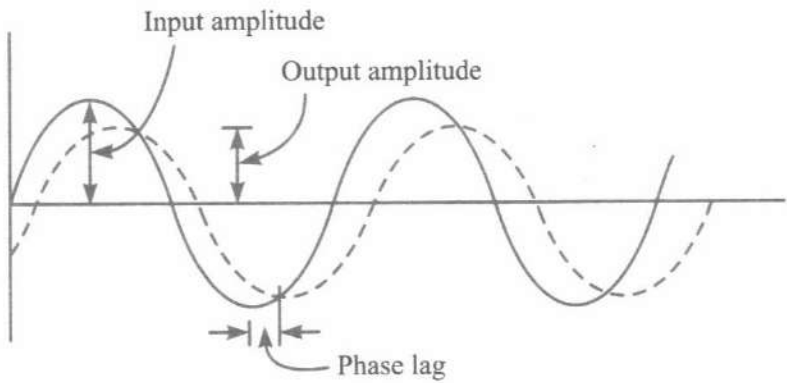

Fig. 2.16. Relationship between an input frequency and corresponding output frequency.
*Salient features (with sinusoidal input) :* Refer to Fig. 2.16.